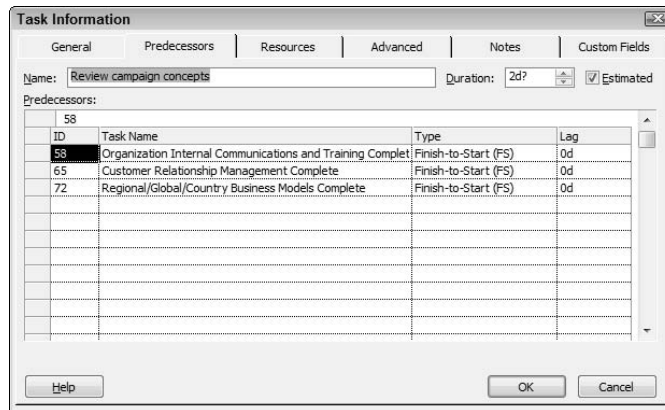

Figure 3-5:
2. Click the Predecessors tab, shown in Figure 3-5.